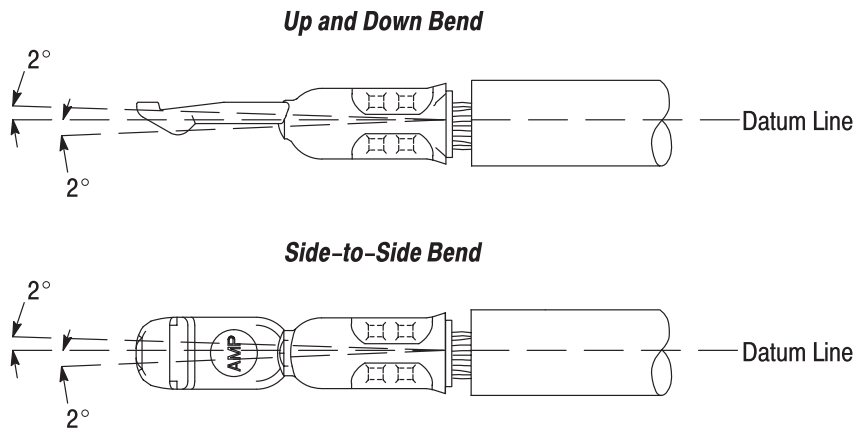

Figure 6
1. Up and Down — the crimped portion must not be bent beyond the limits shown in Figure 6.
2. Side-to-Side— the crimped portion must not be bent from one side to the other beyond the limits shown in Figure 6.